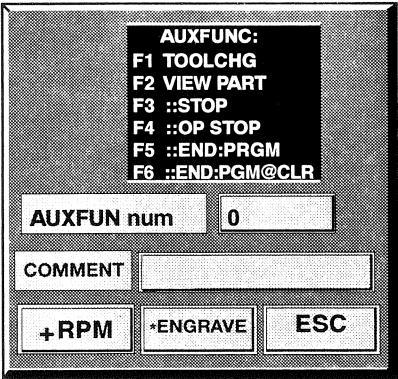

Figure G-15: To access this dialog box, press the + key (+ PGMSTOP) from the MDI Screen.
1. In MDI, press the + key (+ **PGM STOP**) to access the dialog box shown in Figure G-15.